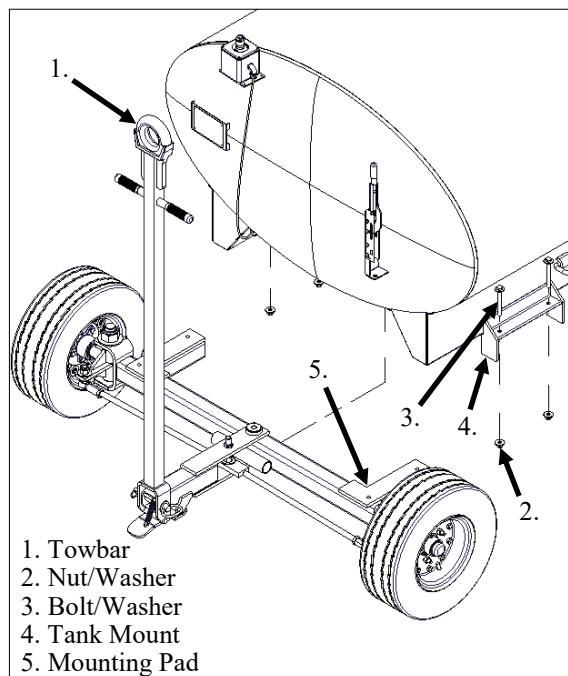

Figure 4-6 Front Undercarriage Removal
- e. Remove bolts (3) and nuts (2), (See Figure 4-6).
- g. Pull Front Undercarriage forward. Note location of rubber mounting pads (5).